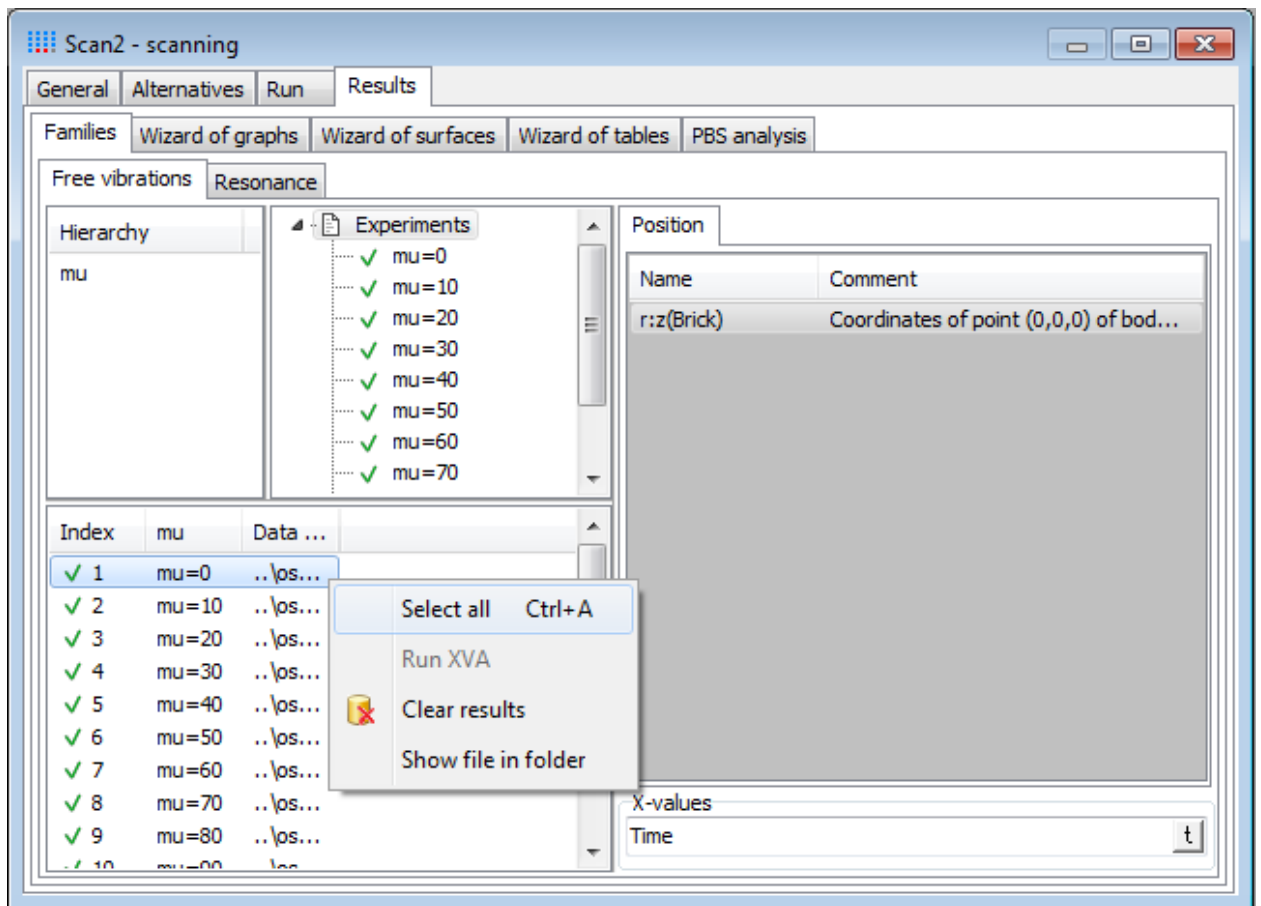

Figure 2.16. Results of the project: select all experiments
3. Select the project window and select all experiments in the left bottom side of the window (**Free vibrations** family), see Figure 2.16. To select all experiments you can use the **Select all** context menu command or mouse + Shift or Ctrl keys.